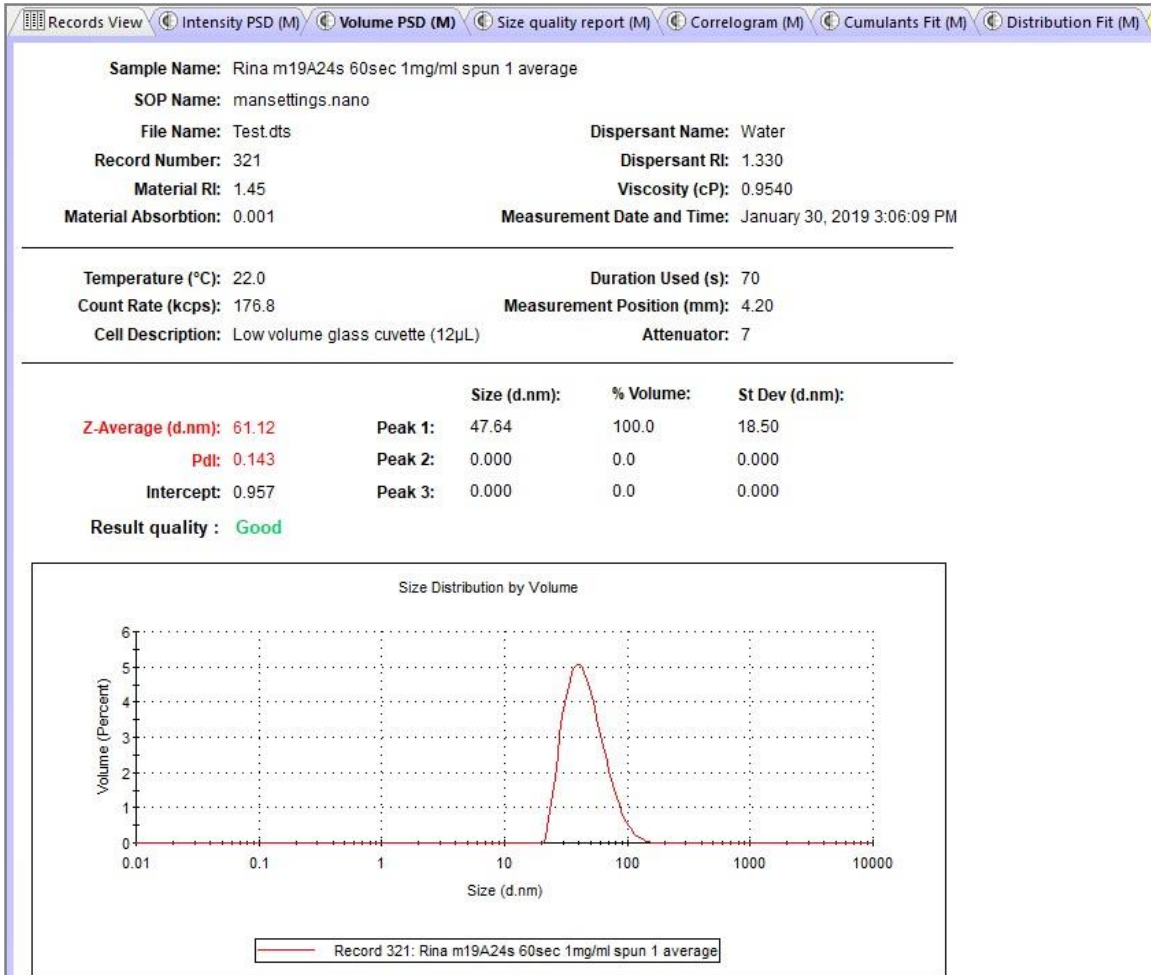
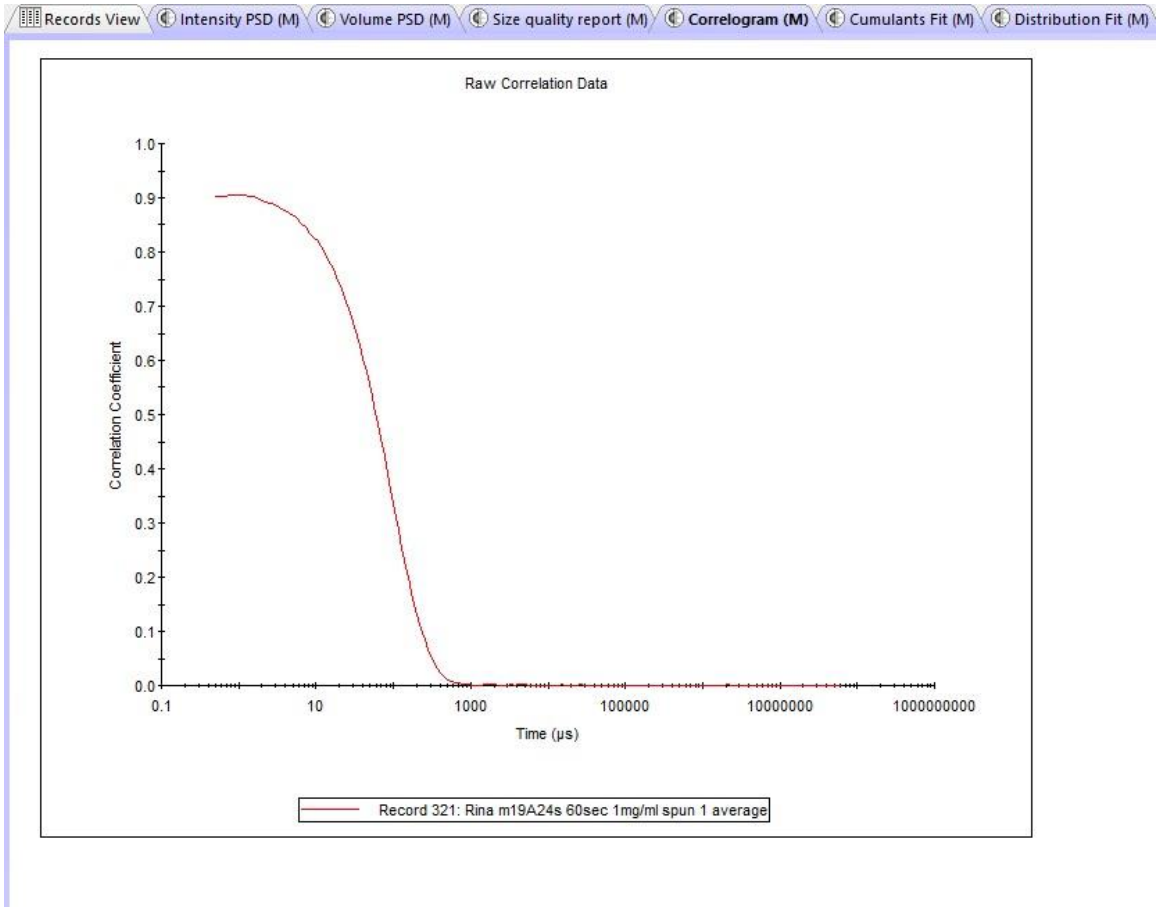

Figure 2. Particle size quantification of  $\alpha$ -synuclein PFFs sonicated for 60 seconds (2 x 30 seconds).
Figure 3. Raw correlation data for particle size quantification of  $\alpha$ -synuclein PFFs sonicated for 60 seconds (2 x 30 seconds).
4. Analyze the supernatants using the Zetasizer Nano S system. See Appendix 4.2 for instructions to set up and run the measurement SOP using the Malvern Zetasizer software. An example of particle size quantification is shown in Figure 2 and the raw correlation data is shown in Figure 3.
- The raw correlation data curve shows the correlation of scattering intensity during time measured (Figure 3). The correlation curve should be smooth and tend to intercept with y axis just below a value of 1 (optimal) or between 0.2 to 0.99 (acceptable). If curve decay starts anywhere below 0.1 and is bumpy at earlier timepoints on the x axis, it indicates that the sample concentration is too low and is not acceptable for the DLS measurement. Other factors that yield a bumpy curve, particularly at later timepoints on the x axis, include